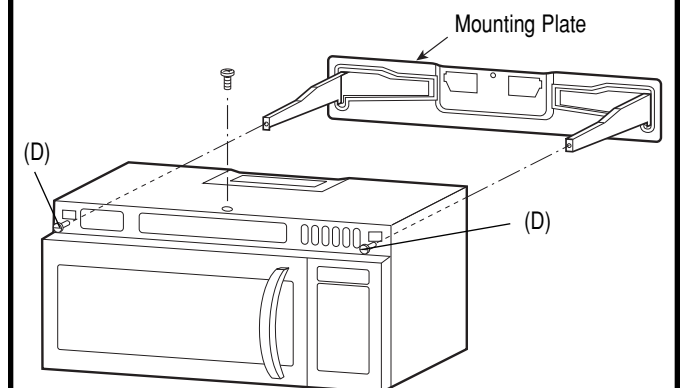

Figure 6
5. Loosen the two Mounting Screws (D) which secure the Mounting Plate to the rear side of the oven. Remove the Mounting Plate. See Figure 6.